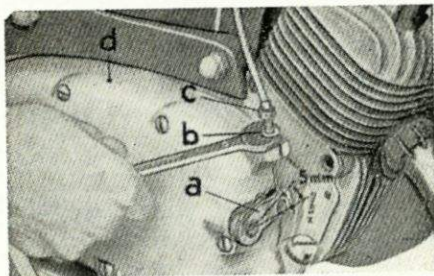

Fig. 13
- 1) Unscrew locknut b fig. 13 and act on the adjusting screw c fig. 13 until the lever of the clutch is reset to a 2 mm clearance.
If so, remove the clutch cover d, fig. 13, after removing the right hand pedal and the eight fastening screws. Generally, behind the pressure pin f fig. 5, two spacer rings are provided, and, in this instance, one must be removed. Reassemble then the clutch cover d fig. 13, and inspect clutch lever a, fig. 13, for correct play. This lever must have a 5 mm play, that is, it must move for five millimetres before you feel any pressure.